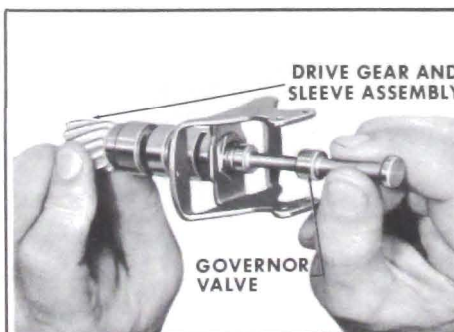

Figure 5-245
5. Remove governor valve from drive gear and sleeve assembly. See Figure 5-245.